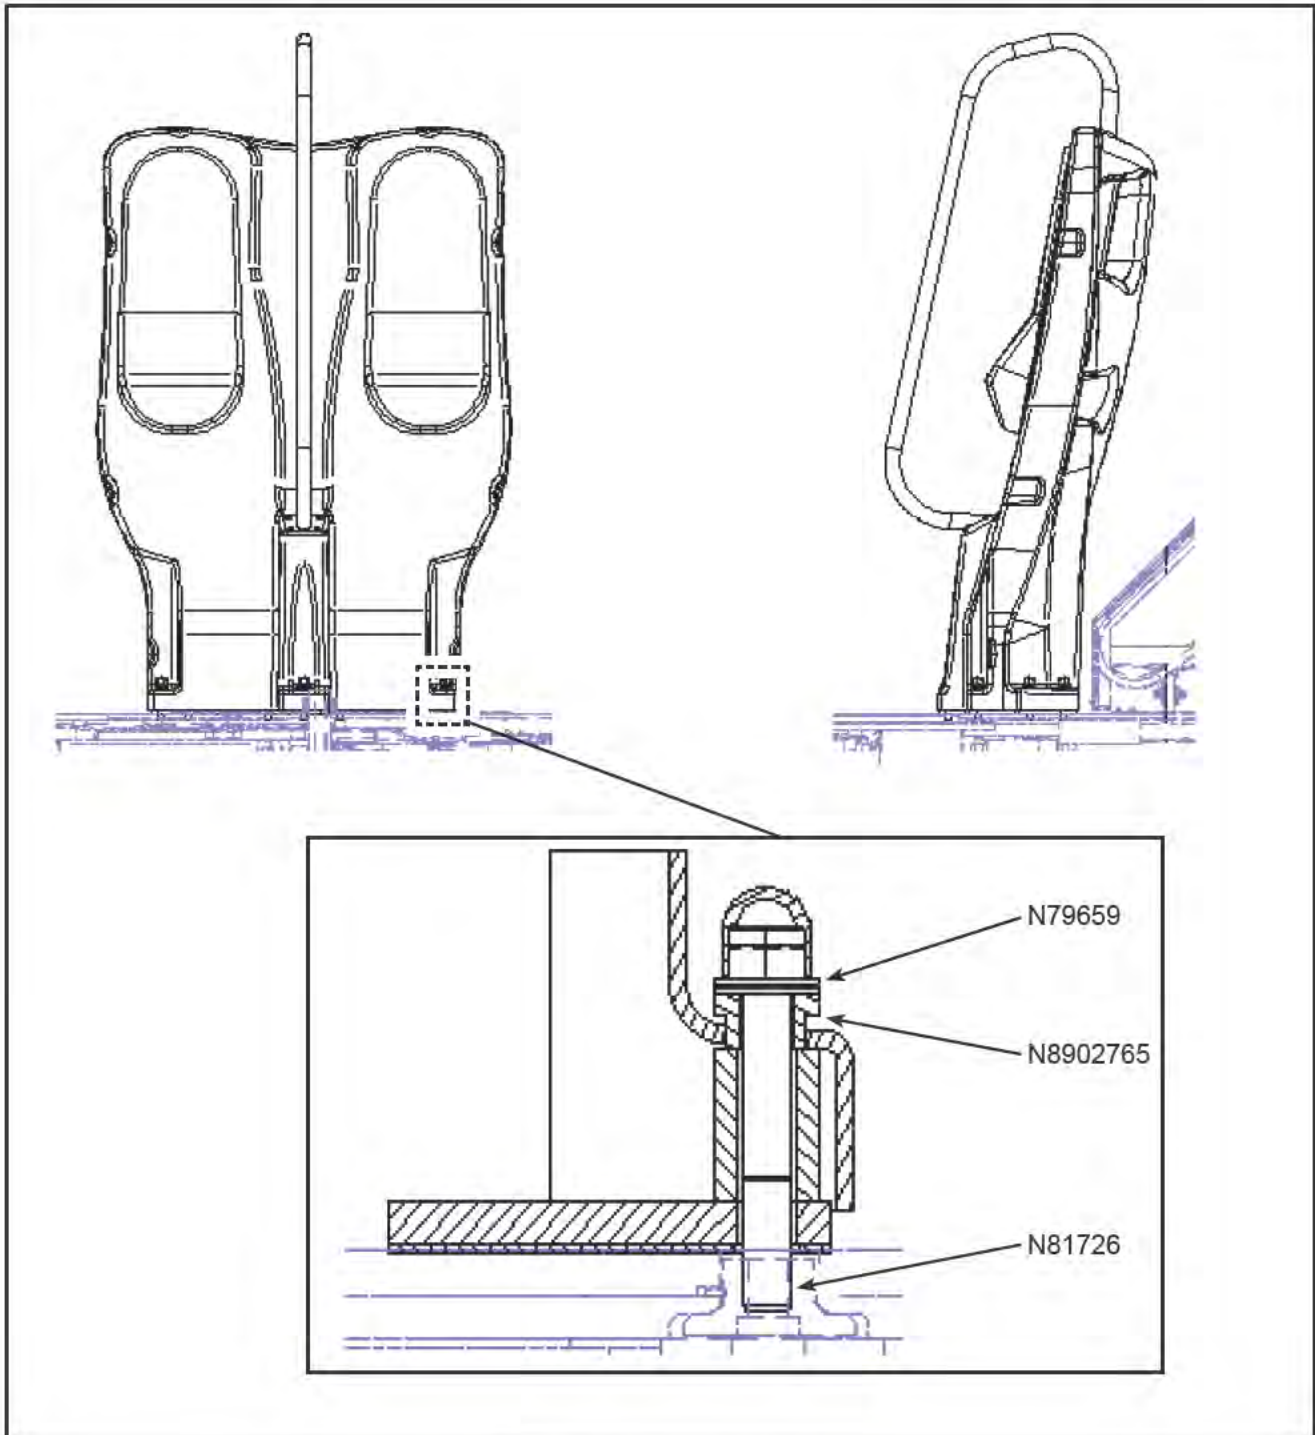

Figure 2 - Hardware Location
- 1.2. Install the new bum rest shells using the new bushing N8902765, self-locking washer N79659 and screw N81726. Torque to 30.2 lb-ft (41 N•m). See Figure 2. Typical for 7 locations.